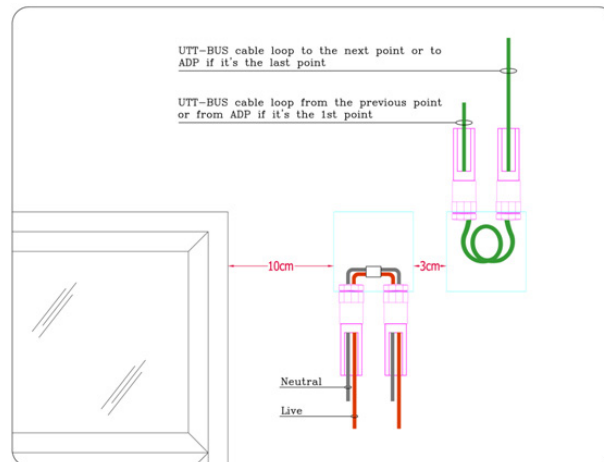

Figure 1.1.13: Shade & Curtain Connections
- Two back boxes with blank plates should be provided at the top right side of all windows at the curtain location (10-20 cm away from the window frame) as in Figure 1.1.13. As a suggestion, creating a curtain box helps hiding the back boxes.